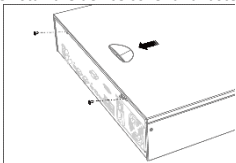

Figure 2-1 Remove Cover
Step 1 Unfasten screws on the back, and push the cover backwards to remove the cover. Refer to Figure 2-1.